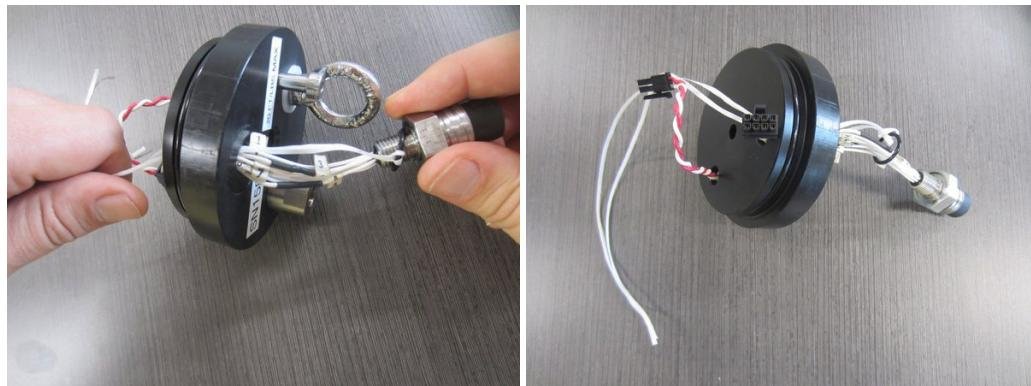

Figure 30: Removal of an O-ring from an MCBH connector (a MicroCTD is pictured).
- **Bulkhead Connector(s):** To remove the connector O-rings, thread string around the O-ring and pass both ends of the string through the threaded hole (Figure 30). Gently pull on the string to pass the O-ring through the hole and around the wiring harness. Reverse these steps to replace this O-ring. VMP500